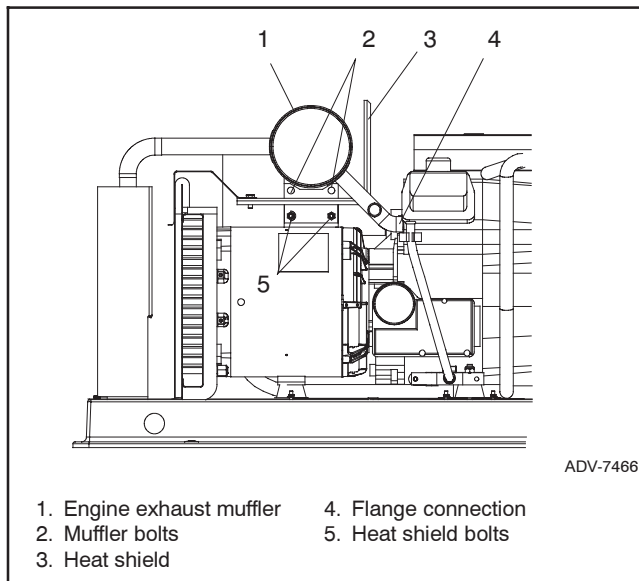

Figure 7-6 Muffler and Heat Shield
3. Remove the engine exhaust muffler and alternator heat shield. See Figure 7-6.